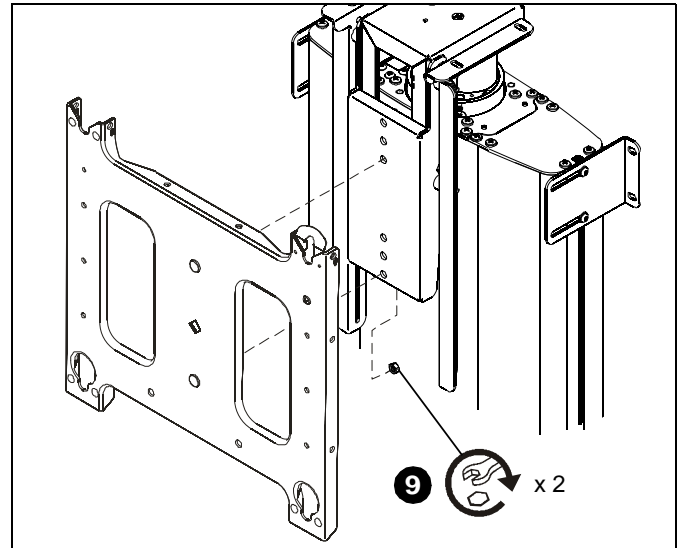

Figure 5
9. Secure faceplate to faceplate mounting bracket using two locknuts. (See Figure 5)